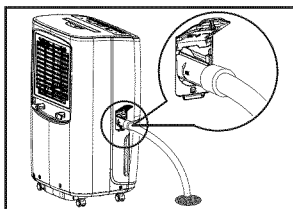

fig. 5
- Make sure the hose is secure so there are no leaks. (fig.5)
- Direct the hose toward the drain, making sure that there are no kinks that will stop the water flowing. (fig.5)